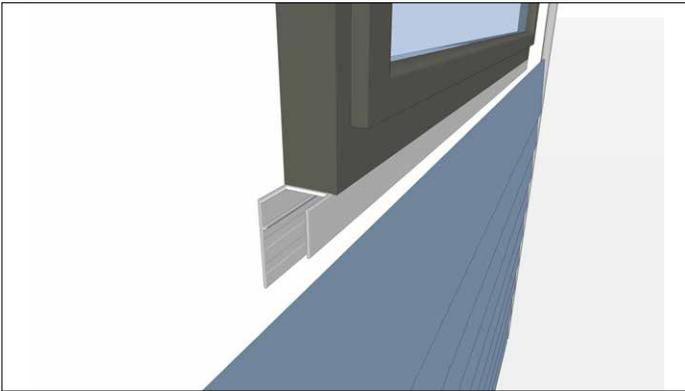

Figure 24.1
1. Extend EZ.40 J trim 3/4" past both sides of the window sill (Figure 24.1). Cut a notch into the edge of both sides of window sill trim flush to window frame.